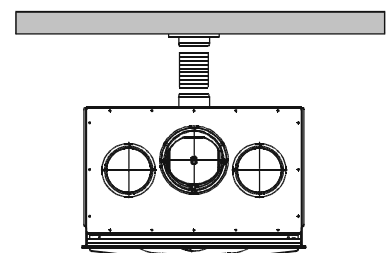

Figure 1 – Plan: combustion air inlet
Also in this case, it is necessary to connect the stove unit to an external air intake (B) with a pipe \varnothing 100 (optional) using the flange located on the back of the stove unit. (figure 1) If it is not possible to connect directly to the air intake, at least connect the flange to the outside of the cladding.